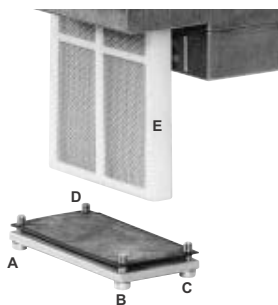

Fig. 24
- 2 Remove screws 1 ÷ 6 (Fig. 24).